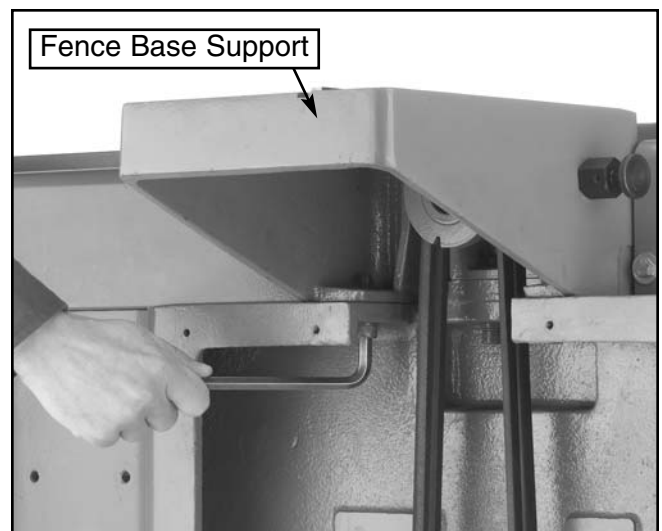

Figure 3. Attach fence base support to jointer assembly.
1. Using (2) M12-1.75 x 35 cap screws, (2) M12 washers, and (2) $\frac{5}{8}$ " I.D. x 3mm thick x 38mm O.D. special washers, attach the fence base support to the jointer assembly as shown in **Figure 3**. Make sure the special washers are between the fence base support and the jointer assembly. The 2 washers go between the cap screw head and the jointer assembly. Tighten securely.